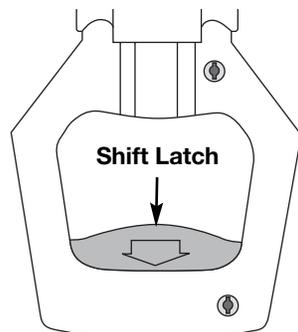

Fig. 8
1. If the shift handle is in the UP position, grasp the red shift latch (Fig. 8) on the shift handle and squeeze until the internal locking mechanism releases.